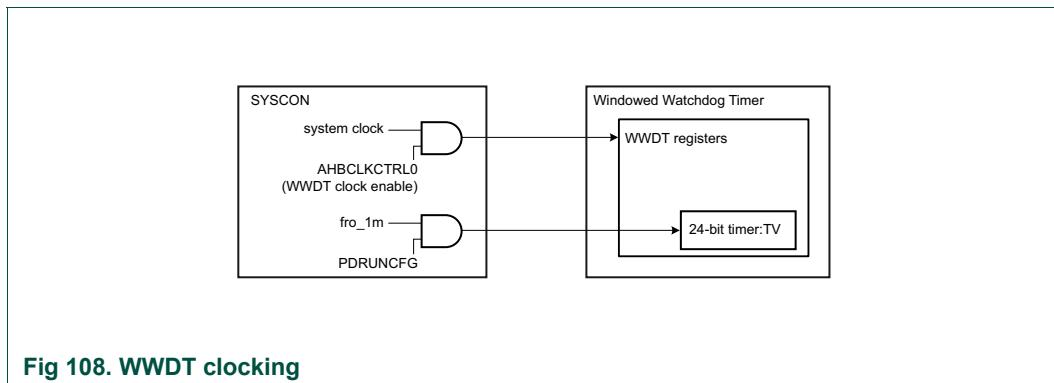

Fig 108. WWDT clocking
- The watchdog clock (WDCLK) is generated from always on FRO_1MHz clock, see Figure 108 that can be divided by WDT clock divider register value in SYSCON module. See Table 105. The accuracy of this clock is limited to +/- 40% over temperature, voltage, and silicon processing variations. To determine the actual watchdog frequency, use the frequency measure block. See Chapter 11 “LPC55S6x/LPC55S2x/LPC552x Analog control”